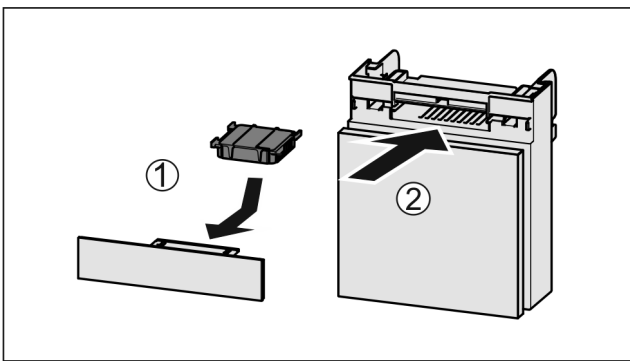

Fig. 136
- ▶ Insert the carbon filter as shown in the diagram Fig. 136 (1).
- ▶ Push the compartment in Fig. 136 (2).